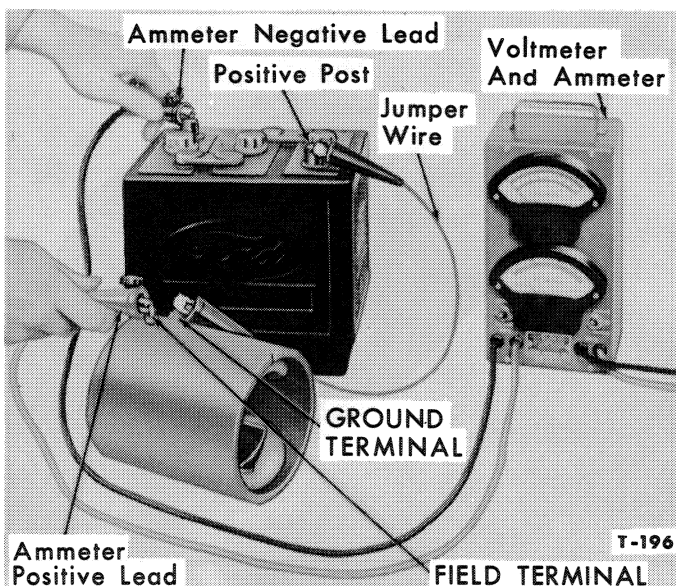

Figure 11—Checking Field Coils for Open or Short Circuit
2. Connect another lead from the other battery post to the generator ground terminal as shown in Figure 11. The ammeter should register 1½-2 amperes. A higher current reading indicates a short circuit. If no current flows, the field has high resistance or an open circuit.